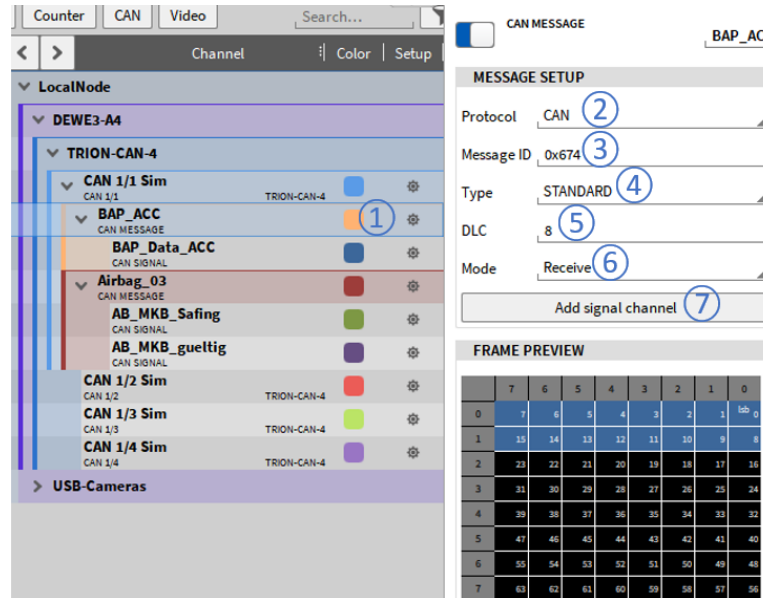

Fig. 7.206: CAN message channel setup
The CAN message setup can be accessed by pressing the gear button of the respective CAN message in the Channel List (see ① in Fig. 7.206).
- Protocol type (see ② in Fig. 7.206): CAN or J1939 or CAN-FD (if applicable)
- Message ID (see ③ in Fig. 7.206): The message's ID can be set from 0x00 to 0x7ff
- Message Type (see ④ in Fig. 7.206): Standard or Extended
- DLC (see ⑤ in Fig. 7.206): The DLC can be set from 0 ... 8 (...64 for CAN-FD)
- Mode (see ⑥ in Fig. 7.206): The Mode can be set from Receive (Receiving CAN data) to Transmit (Outputting OXYGEN data over CAN).
- Add signal channel (see ⑦ in Fig. 7.206):